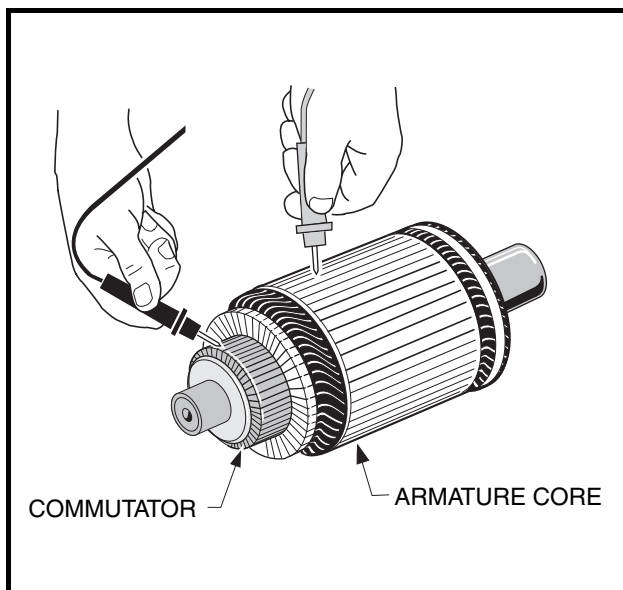

Figure 16b-12 Armature Test
1. With a multimeter set to 200 ohms, place one probe on the commutator and the other on the armature core. The multimeter should indicate no continuity (**Figure 16b-12, Page 16b-7**). If the reading is incorrect, replace the armature.
3. Inspect the brush springs (14) (**Figure 16b-15, Page 16b-10**). Replace springs that are discolored from heat (light gold or blue tinted).